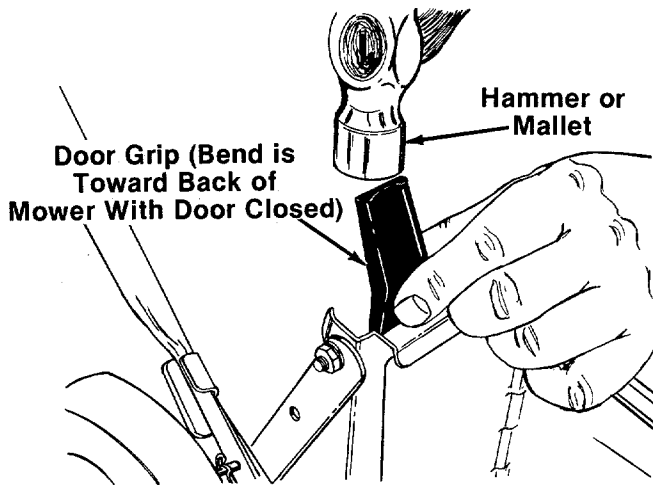

FIGURE 15.
6. Attach the door grip to the tab on the top of the door in the catcher panel so that the bend in the grip is toward the back of the mower. See figure 15. Tap on gently with a hammer or mallet.